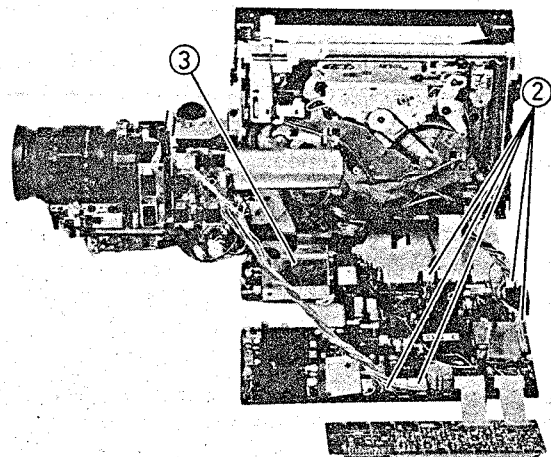

Fig. 2-14 Main Circuit Board Removal
Main Circuit Board Removal (Figs. 2-14, 2-15, 2-16)
2. Disconnect five (5) connectors (CN1501, CN1602, CN611, CN612, CN903). (See Fig. 2-14)